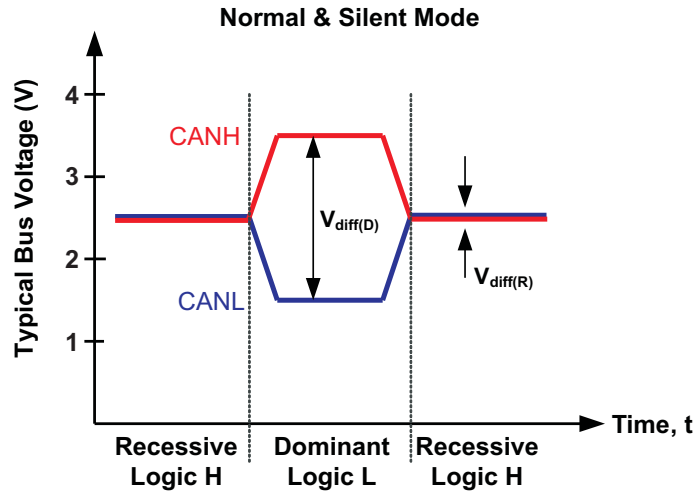
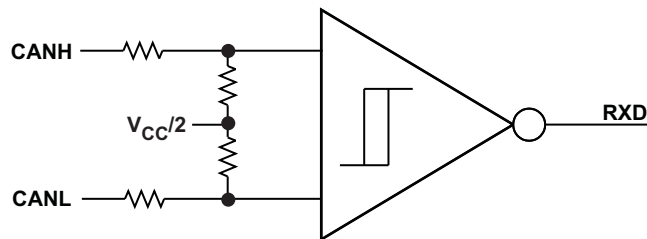

Figure 15. Bus States (Physical Bit Representation)
Figure 16. Simplified Recessive Common Mode Bias and Receiver
- (1) H = high level, L = low level, X = irrelevant, Z = common mode (recessive) bias to  $V_{CC} / 2$ . See Figure 15 and Figure 16 for bus state and common mode bias information.
- (2) Devices have an internal pulldown to GND on S pin. If S pin is open the pin will be pulled low and the device will be in normal mode.
- (3) Devices have an internal pullup to  $V_{CC}$  on TXD pin. If the TXD pin is open the pin will be pulled high and the transmitter will remain in recessive (nondriven) state.
The CAN bus has two states during powered operation of the device: *dominant* and *recessive*. A dominant bus state is when the bus is driven differentially, corresponding to a logic low on the TXD and RXD pin. A recessive bus state is when the bus is biased to  $V_{CC} / 2$  via the high-resistance internal input resistors  $R_{IN}$  of the receiver, corresponding to a logic high on the TXD and RXD pins. See Figure 15 and Figure 16.